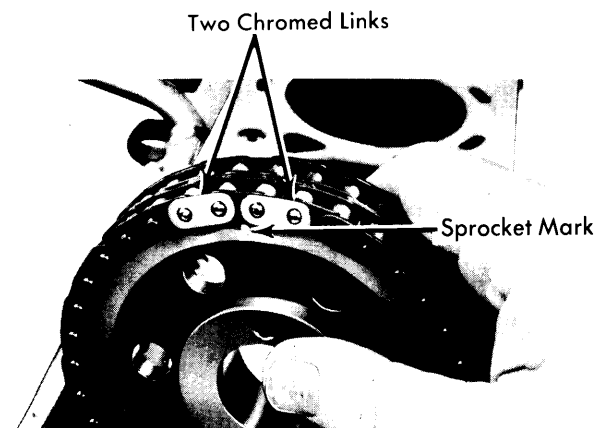

Fig. 10 Aligning Camshaft Sprocket & Timing Chain
2) Install cam sprocket in chain so that timing mark on sprocket is located between two chromed links on chain (See Fig. 10). Slide oil pump drive spline over crankshaft key. Install new timing cover gasket after first cleaning mounting surface. Turn cam sprocket counterclockwise to remove slack from chain and install timing chain cover.